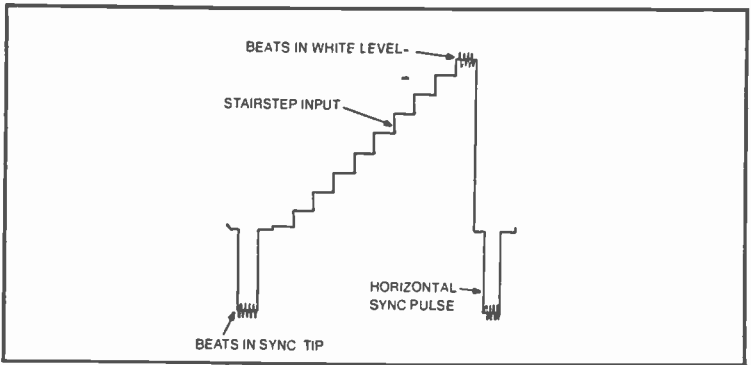

Fig. 16-13. Interference beats in stairstep signal.
- **FM frequency.** The peak white and sync tips correspond to a definite frequency from the FM modulator. This must be correct, otherwise the interchange of the tapes will be affected. It is set by feeding a standard stairstep signal into the video input and then injecting the output of an oscillator into some point in the electronics. The oscillator is set to the FM frequency, which corresponds to sync tips and the E-E picture is viewed on a monitor and an oscilloscope. The FM deviation is adjusted for minimum interference. The injection frequency is now set to the peak, while frequency and the adjustment are repeated using the appropriate control in the circuit. See Fig. 16-13.